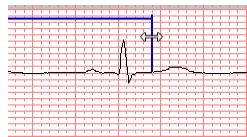

Figure 393 – Editing a defined Marker
2. Press and hold down the left mouse button and move the cursor to the new location (see Figure 393). The measurement border will move along with the cursor.